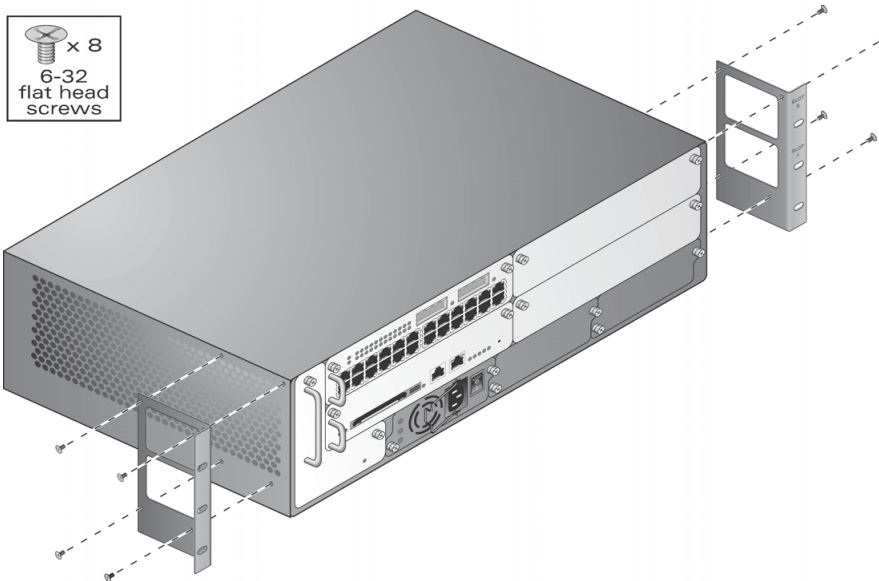

Figure 3-2 Attaching the Rack Mounting Brackets to the Aruba 6000 chassis
2. Attach the rack mounting brackets to the switch chassis as shown in Figure 3-2.